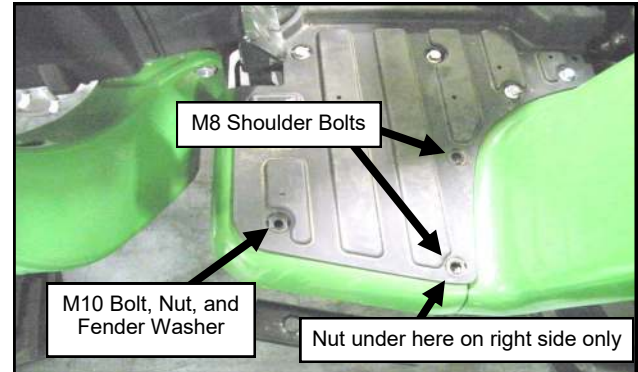

Fig. 1.1 (Remove Left Floorboard Hardware)
- 1.1 Remove (2) M8 shoulder bolts, (1) M10 bolt, and (1) M10 nut from left side floor board. See Figure 1.1. Be mindful of a fender washer under the floorboard with the M10 nut, as it might be stuck to the bottom of the floorboard. This will be used later, so removing it is not necessary.